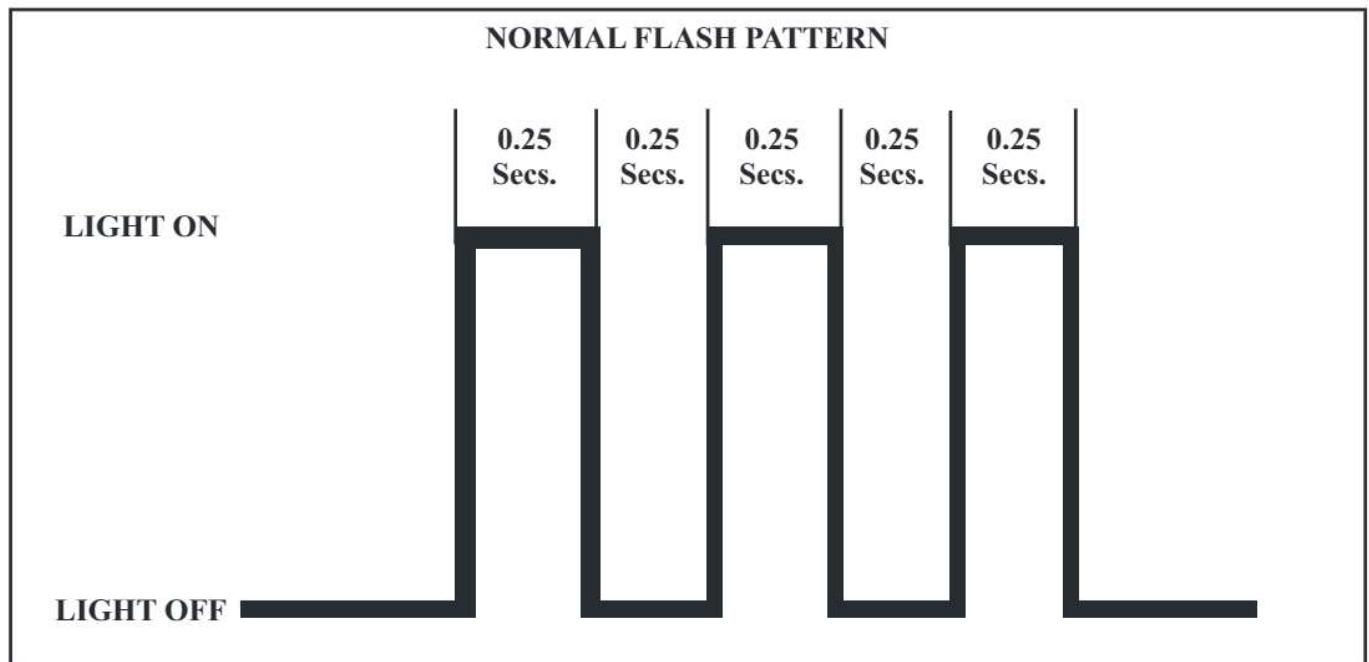

Figure 81
- >If no codes are stored, the A/T Check Lamp will flash ON and OFF at 0.25 second intervals as seen in the flash pattern in Figure 81.